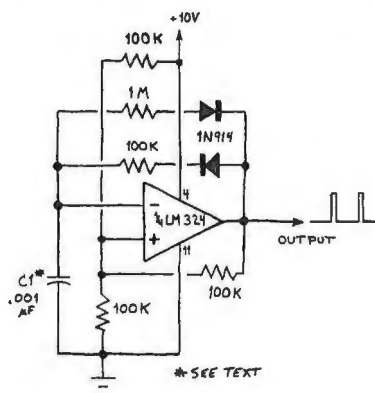
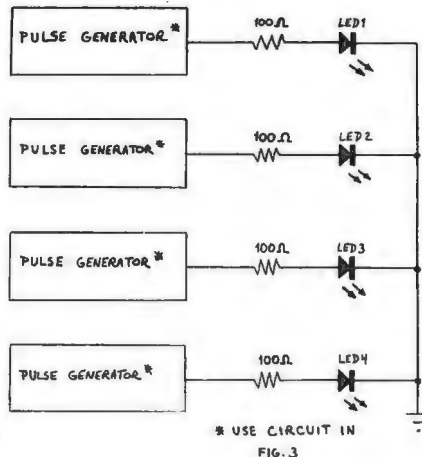

Fig. 3. Change C1 to vary pulses.
Fig. 5. Random LED flasher.
A somewhat more versatile pulse generator is shown in Fig. 3. The repetition rate of this circuit can be changed from one pulse every few minutes to 200 kHz by simply changing C1. Here's a table of pulse parameters I measured with the prototype circuit:
The conventional pulse generator of Fig. 3 can also be used to experiment with applications like these:
3. A LED "random" flasher. See Fig. 5 for this variation of the circuit. For best results, use different values for the capacitors (C1 in Fig. 3) to provide different flash rates. These values should range from about 0.2 to 1.0  $\mu\text{F}$  so that the flashing will be discernable to the eye. Incidentally, you can house this circuit in a small plastic enclosure for permanent use as a novelty or attention-getting device.